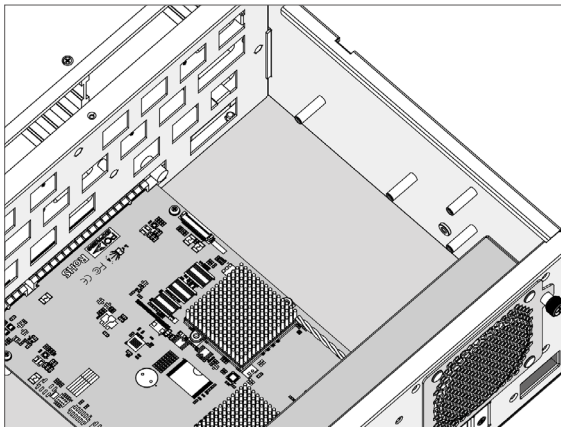

Figure C-5, Removing the Cover
1. Loosen the screws and remove the cover from the ARC-8050T3-24R enclosure, as shown in Figure C-5.